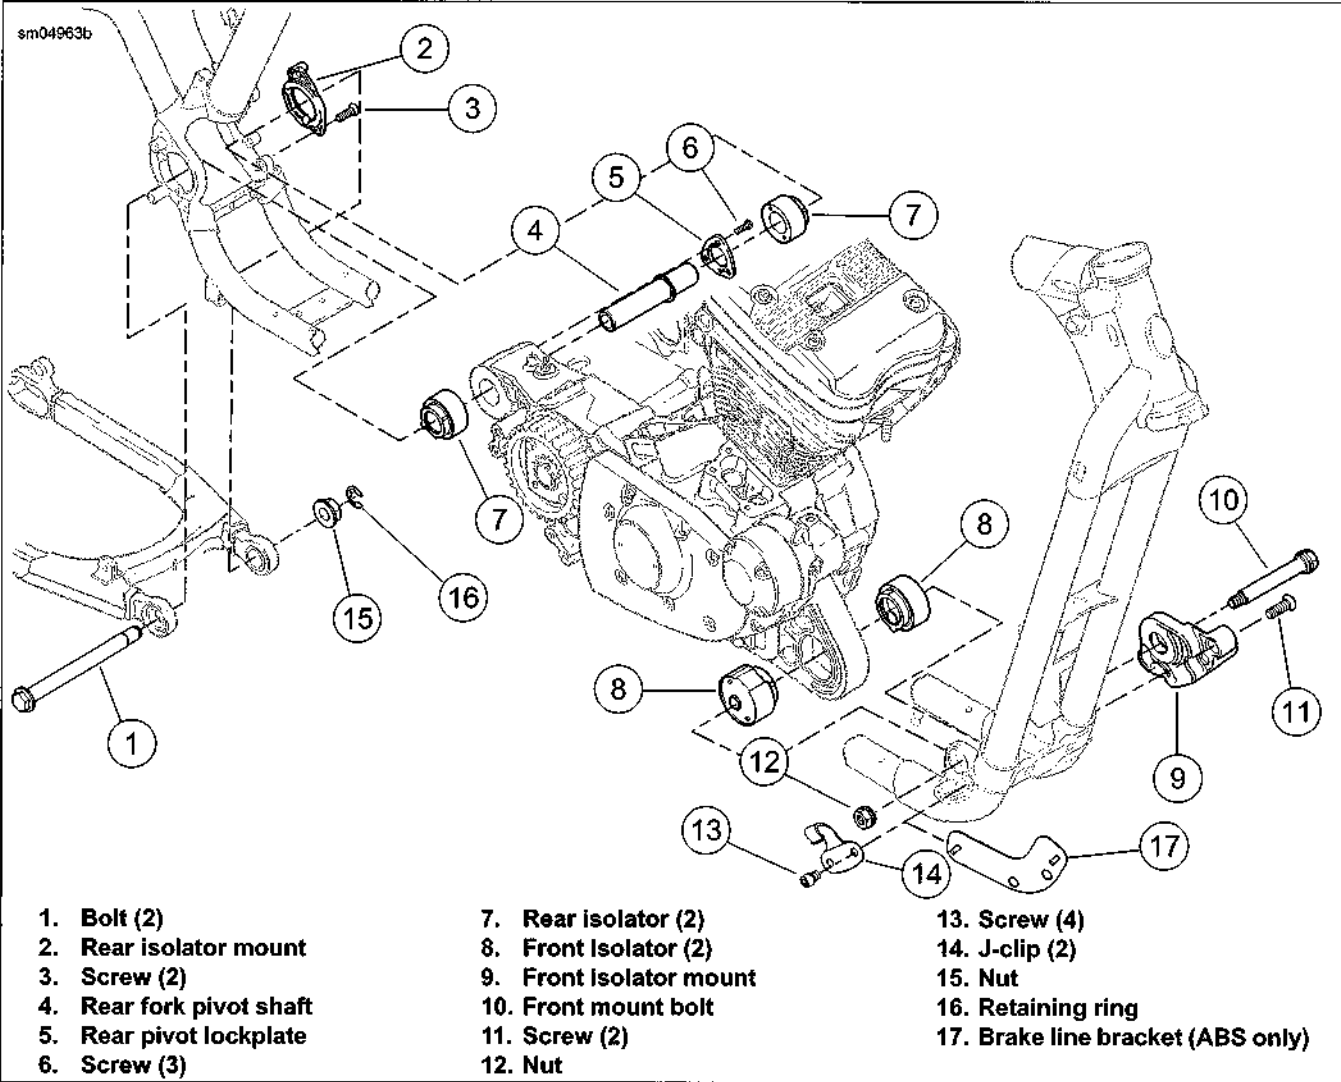

Figure 3-10. Engine Mount/Isolator Components (typical)
- a. **Non-ABS models:** See Figure 3-10. Remove fasteners (13) and J-clip (14) from each side of frame.
- b. **ABS models:** Remove fasteners (13) and J-clip (14) from left side of frame. Remove fasteners (13) securing ABS brake line bracket (17) to right side of frame.
35. Loosen, but do not remove, two front isolator mounting bracket screws (11) on left side of engine.
36. Loosen, but do not remove, two rear isolator mounting bracket screws (3) on left side of engine.
38. Remove front engine mount bolt (10) and nut (12).
39. Remove two screws (11) and front isolator mount (9).
40. Remove retaining ring (16), nut (15) and rear fork pivot bolt (1). Pull rear fork back until fork pivot bosses clear the frame. See 2.18 REAR FORK.
41. Remove two screws (3) and rear isolator mounting bracket (2) from frame.
- See Figure 3-10. Make sure pivot shaft (4) and rear pivot lockplate (5) are mounted on engine mounting boss at rear of engine. Position right rear isolator (7) on pivot shaft on rear of engine. Do not install left rear isolator now.
- Position right front isolator (8) on front of engine. Do not install left front isolator now.